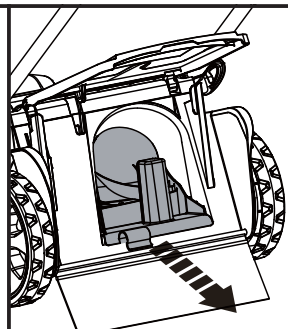

Fig. 8
3. Press the locking button to release and remove the mulching plug (Fig. 8).